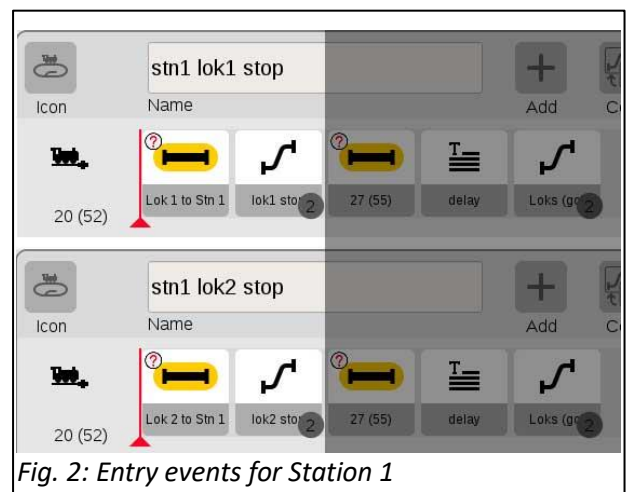

Fig. 2: Entry events for Station 1
Two events are created for Station 1 that uses contact '20 (52)'. The name of the event indicates one event for each lok that could possibly enter station 1: 'stn1 lok1 stop', 'stn1 lok2 stop'. Fig. 2 shows the two events created.